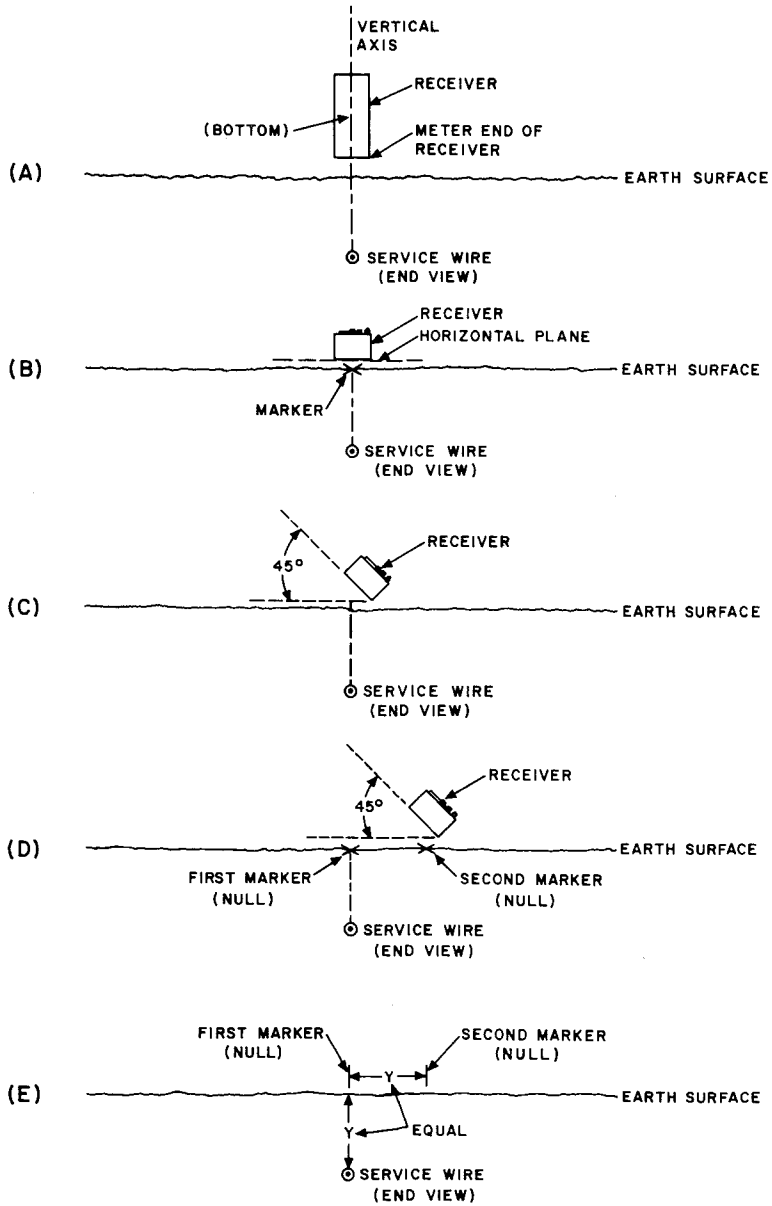

Fig. 13—Depth Measurement
4.24 The following paragraphs (paragraphs 4.25 through 4.32), and Fig. 13, give a procedure for determining how deep the service wire is buried.
4.26 Slowly rotate the receiver around the vertical axis until the tone is nulled. See Fig. 13(A). The service wire path is perpendicular to the meter face.
4.29 This null indicates the bull's-eye is directly over the service wire. Place a marker on the ground, just below the bull's-eye, to indicate the position of the null. See Fig. 13(B).
4.30 Tilt the left side of the receiver up until it is 45 degrees with respect to the horizontal plane. See Fig. 13(C).
4.31 Keep the receiver at an angle of 45 degrees with respect to the horizontal plane. Move the receiver to the right along the surface of the earth, in a perpendicular direction away from the service wire path, until a null of the tone is detected. Place a second marker on the ground under the receiver, just below the bull's-eye, to indicate the position of this null. See Fig. 13(D).
4.32 The depth of the service wire below the surface of the earth is the same as the distance between the first marker (null) and the second marker (null). See Fig. 13(E).